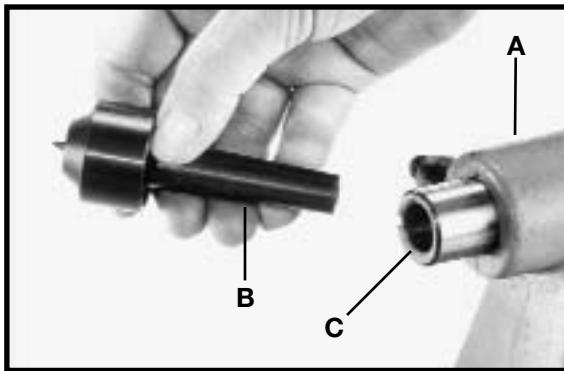
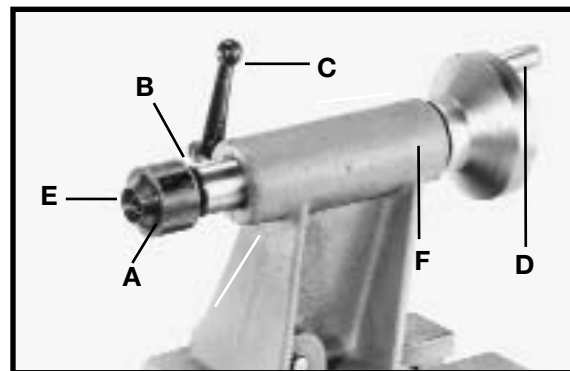

Fig. 12
Fig. 13
The tailstock live center (A) Fig. 12, supplied with your lathe, is equipped with a No. 2 Morse Taper shank and is inserted into the tailstock spindle (B). To remove the live center (A) Fig. 13 from the tailstock spindle, loosen lock knob (C) and rotate handwheel (D) to move spindle (B) back into the tailstock body. This action will push the live center (A) out of the spindle (B). Remove the center point (E) with the knockout bar through the hollow tailstock (F)